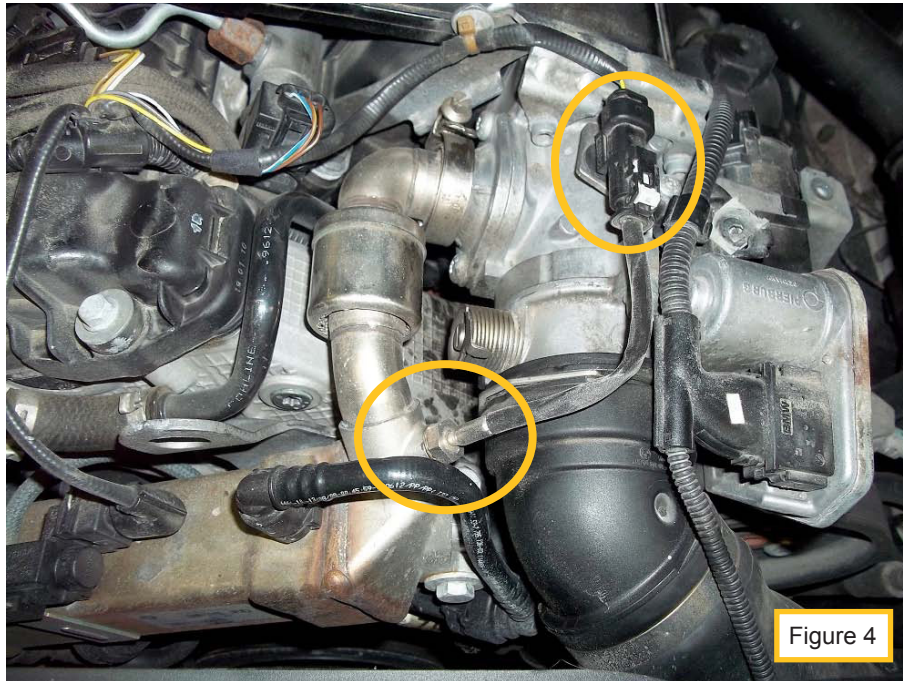

Figure 4
4. Remove EGR temperature sensor (see figure 4). Wire connector must be unplugged to remove EGR temperature sensor.